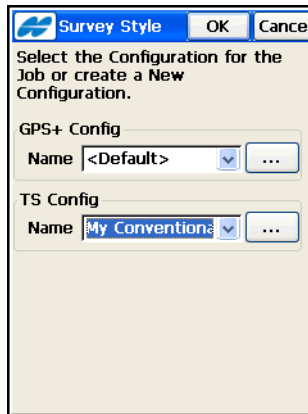

Figure 3-51. Survey Style
On the *Survey Style* screen (Figure 3-51 on page 3-51), select a TS configuration from the drop-down list; either *My Conventional*, *My*
- **OK** – returns to the **Survey Style** screen (Figure 3-51 on page 3-51).
- **Finish** – saves the changes and returns to the *Survey Style* screen (Figure 3-51 on page 3-51). Settings are transmitted only when the configuration is used.